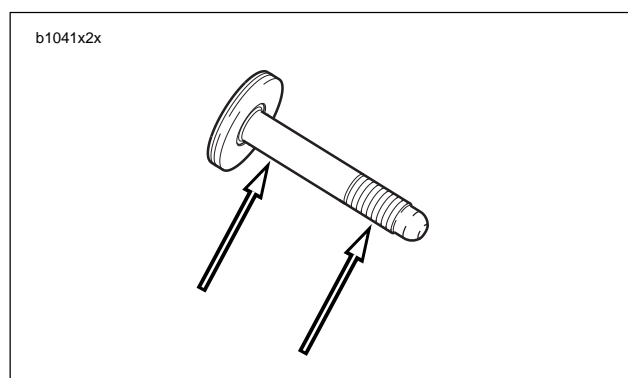

Figure 2-84. Lubrication Points on Front Isolator Bolt
2. See Figure 2-84. Lubricate front isolator bolt with ANTI-SEIZE and loosely install.